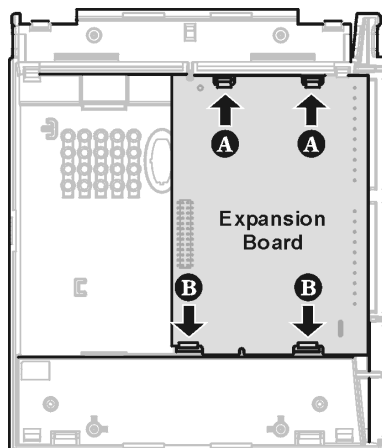

Figure 26
Press the two small tabs at the top of the Expansion board (A) to release the top of the Expansion board. (See Figure 26.) Then press the two small tabs at the bottom of the Expansion board (B) to release the bottom of the Expansion board. Lift the Expansion board out of the housing.